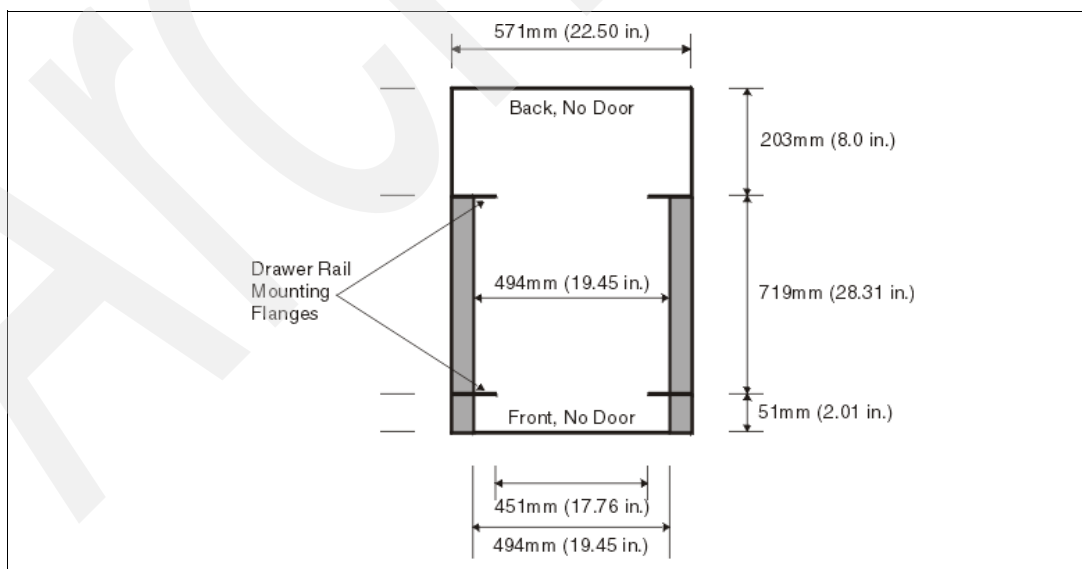

Figure 1-4 Top view of non-IBM rack specification dimensions
- The front rack opening must be 451 mm wide + 0.75 mm (17.75 in. + 0.03 in.), and the rail-mounting holes must be 465 mm + 0.8 mm (18.3 in. + 0.03 in.) apart on center (horizontal width between the vertical columns of holes on the two front-mounting flanges and on the two rear-mounting flanges). See Figure 1-4 for a top view showing the specification dimensions.